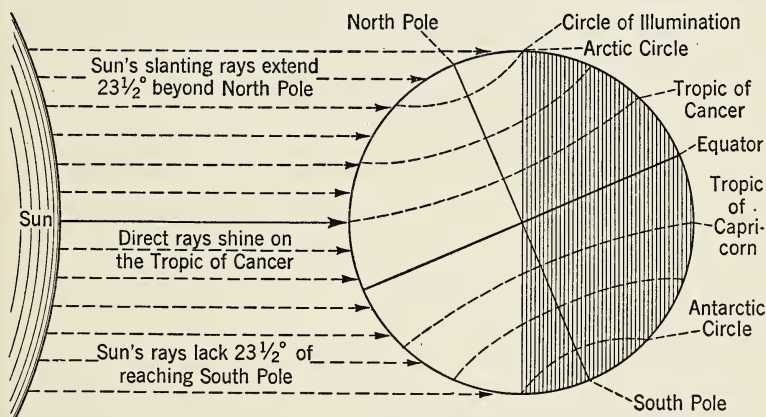

FIG. 3-5. This diagram shows how the earth is heated and lighted during our northern summer.
77. **The northern summer.** With our table, lamp, and globe, let us see what the conditions will be three months after we started on our journey around the sun. The date is about June 21. It is summer in the northern hemisphere and winter in the southern hemisphere. *Why?* With the North Pole turned $23\frac{1}{2}^\circ$ toward the sun, and the South Pole turned $23\frac{1}{2}^\circ$ from the sun, we find that the sun's *direct* rays are now shining on the Tropic of Cancer. Its slanting rays extend $23\frac{1}{2}^\circ$ beyond the North Pole, but they lack $23\frac{1}{2}^\circ$ of reaching the South Pole. [See Fig. 3-5.] We have long, hot days and